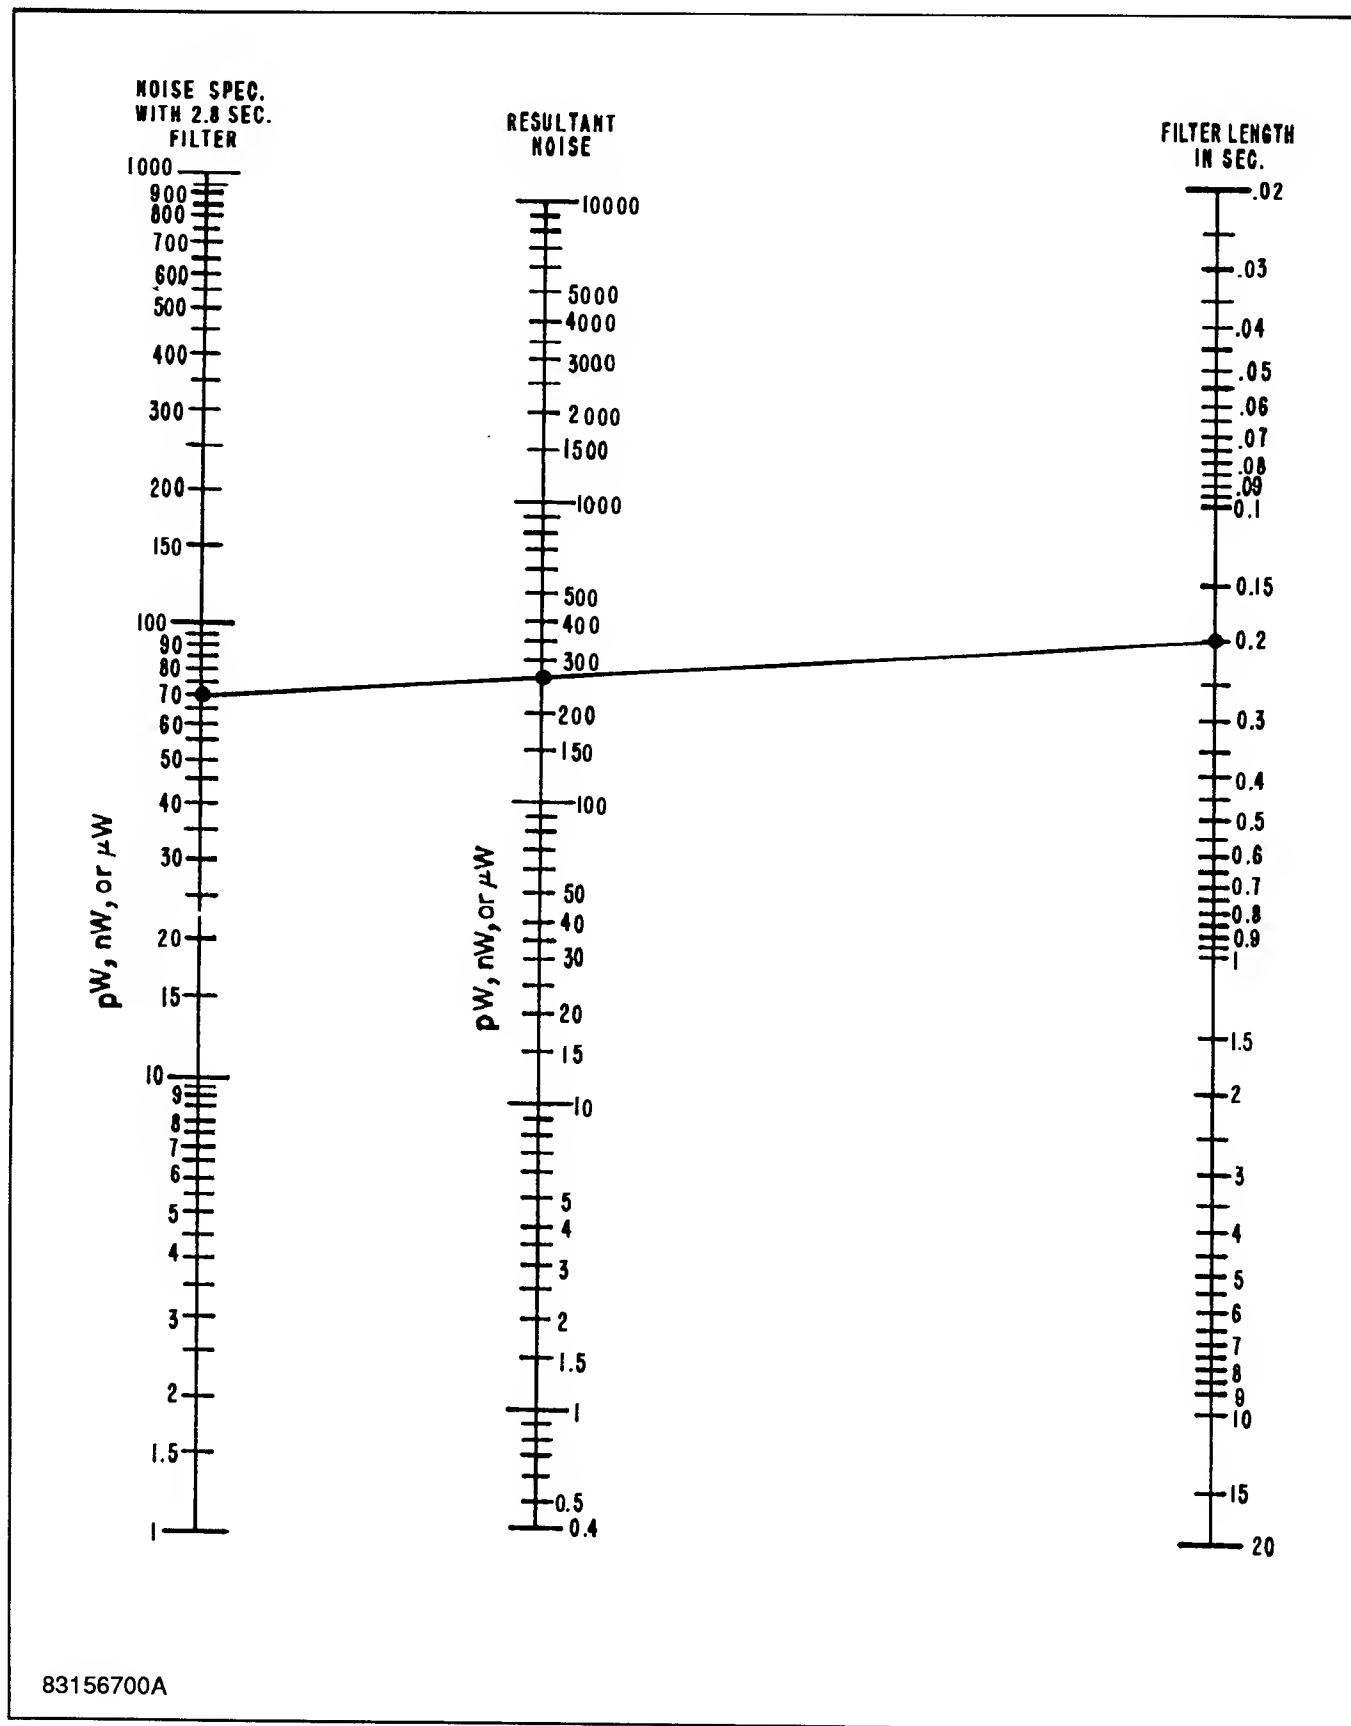

Figure 4-6. Noise Reduction.
**4-24.** Figure 4-6 is a nomograph showing the noise reduction that applies for various filter lengths, given the sensor noise with 2.8 second filtering. (This is the time for which diode sensor noise is specified.) Noise power is inversely proportional to the square root of the filter length. Normally, noise power varies directly with filter bandwidth; however, because power sensors are square-law devices (detected voltage is proportional to power), the noise power is proportional to the square root of the bandwidth. This can be demonstrated with noise measurements. At very low filter lengths (less than 150 milliseconds), however, the noise does not increase without bound for all sensors because the input amplifier noise is restricted with hardware filters to a few Hertz. This additional filtering is not shown in the nomograph.